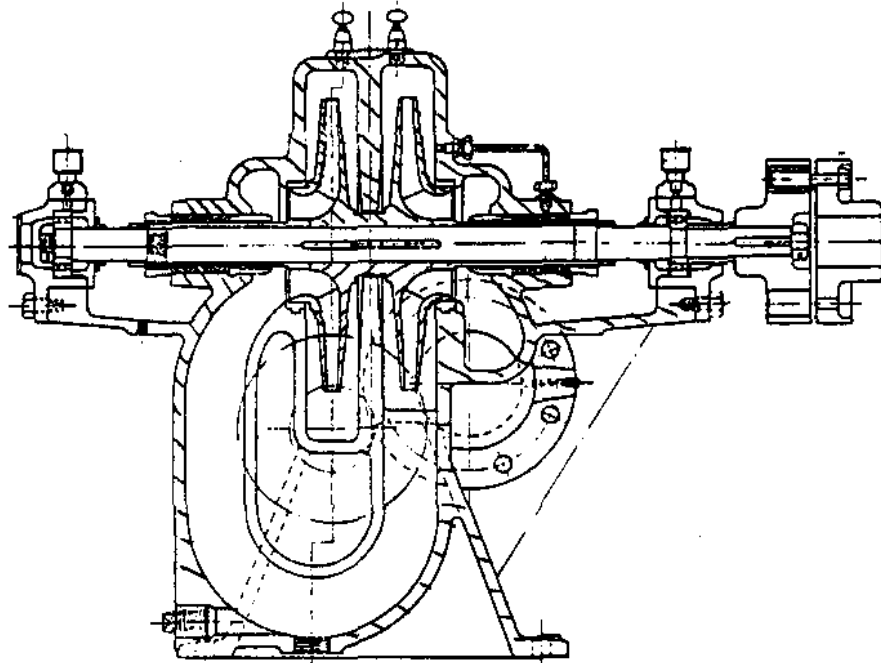

Figure 1
In a system shown in Figure 1, the pressure at the surface of the liquid in an open tank will be the atmospheric pressure. As the liquid enters the suction piping it loses its pressure due to the friction losses and due to the lift. So the pressure progressively decreases and is the minimum as the liquid enters the impeller where the process of pressure buildup starts. The boiling point of any liquid depends on pressure and generally speaking it decreases with the decreasing pressure. If, during the passage through the suction piping, the pressure of liquid drops so much that it is equal or lower than boiling (= saturation) pressure corresponding to the temperature of the liquid, boiling will start. Small bubbles of steam, or generally vapour, will enter the impeller where the pressure is building up and again becomes higher than the saturation pressure of the liquid at the particular temperature. Vapour in the bubbles exposed to this higher pressure will condense leaving voids behind because the specific volume of liquid to vapour can be as high as 1 : 30,000. Surrounding liquid will immediately rush to fill these voids. This results in high speeds and resulting impacts. If a bubble and later a void happened to be at the metal surface of the impeller or casing, the inrushing liquid will hammer the surface. Millions of these impacts result in pitting and damage to pump parts. The whole process, starting with pressure drop and bubble formation up to the implosion and impact is called 'cavitation'.
9. Classify the pump shown in Figure 1 according to the six basic features.